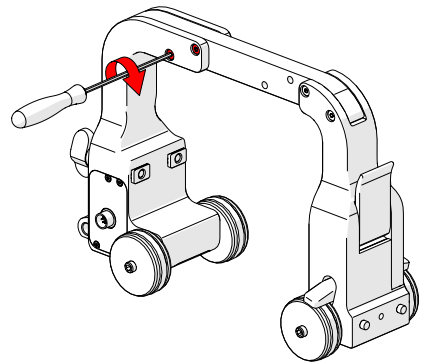

Fig. 20 - Tighten shoulder screws
3. Tighten the two shoulder screws with the supplied 2 mm hex driver (Fig. 20).